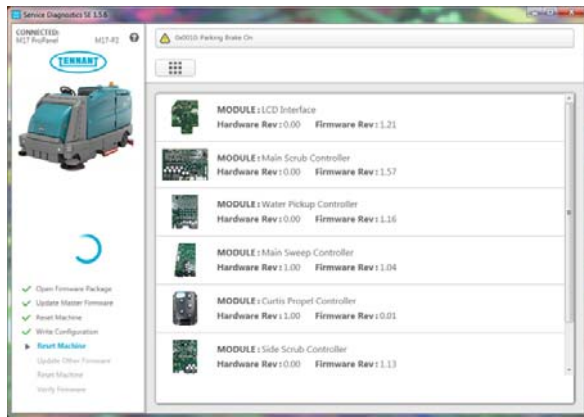

FIG. 17
- The application will begin configuring the new control board. Allow the configuration process to be completed. (Fig. 17)